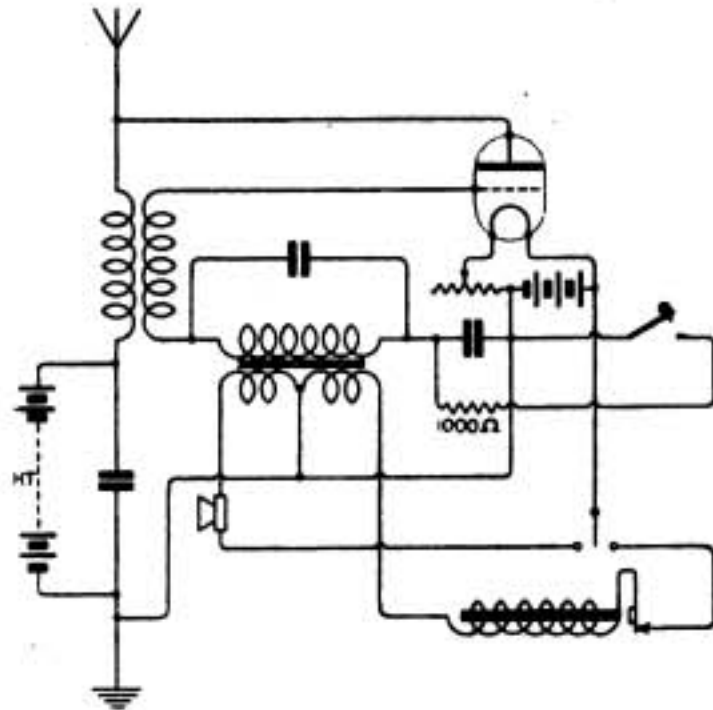

Fig. 2.
(1) See Fig. 2, page 811, March 18th issue, and Fig. 4 of the same issue.
(2) See diagram. Fig. 2.
(3) With a 0.0005 mfd. condenser across the secondary both circuits will tune to 3,500 metres on a 100' single wire aerial.
(1) The set is not sufficiently sensitive for this purpose. At least two valves will be required for weak speech.
(2) A note magnifying valve will increase signal strength and bring in the English concert.
(3) Try making a single-valve set as shown on Fig. 2, page 811, March 18th issue, or that shown in Fig. 4 of the same issue. It would cost £3 to £4 with valve and batteries.
(4) In wireless receiving the term is used to denote the anode or plate voltage of the valve. It is called high-tension, or voltage, because the potential of this battery is greater than that of any other battery used on the set.